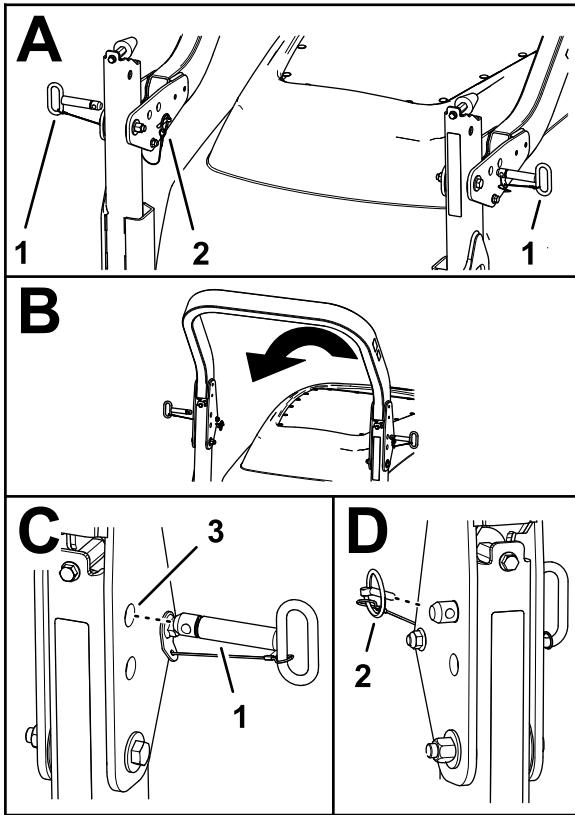

Figure 52
2. Remove the lynch pins that secure the roll-bar pins at each side of the roll bar (Figure 52).